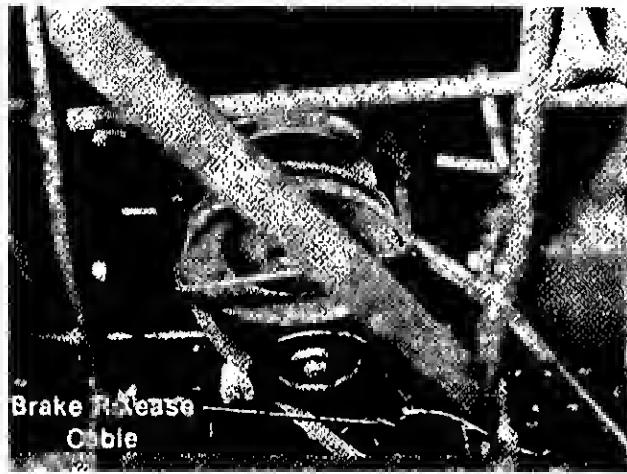

FIGURE 8.
- Place the deck belt around the engine pulley and idler. (See figure 8.)